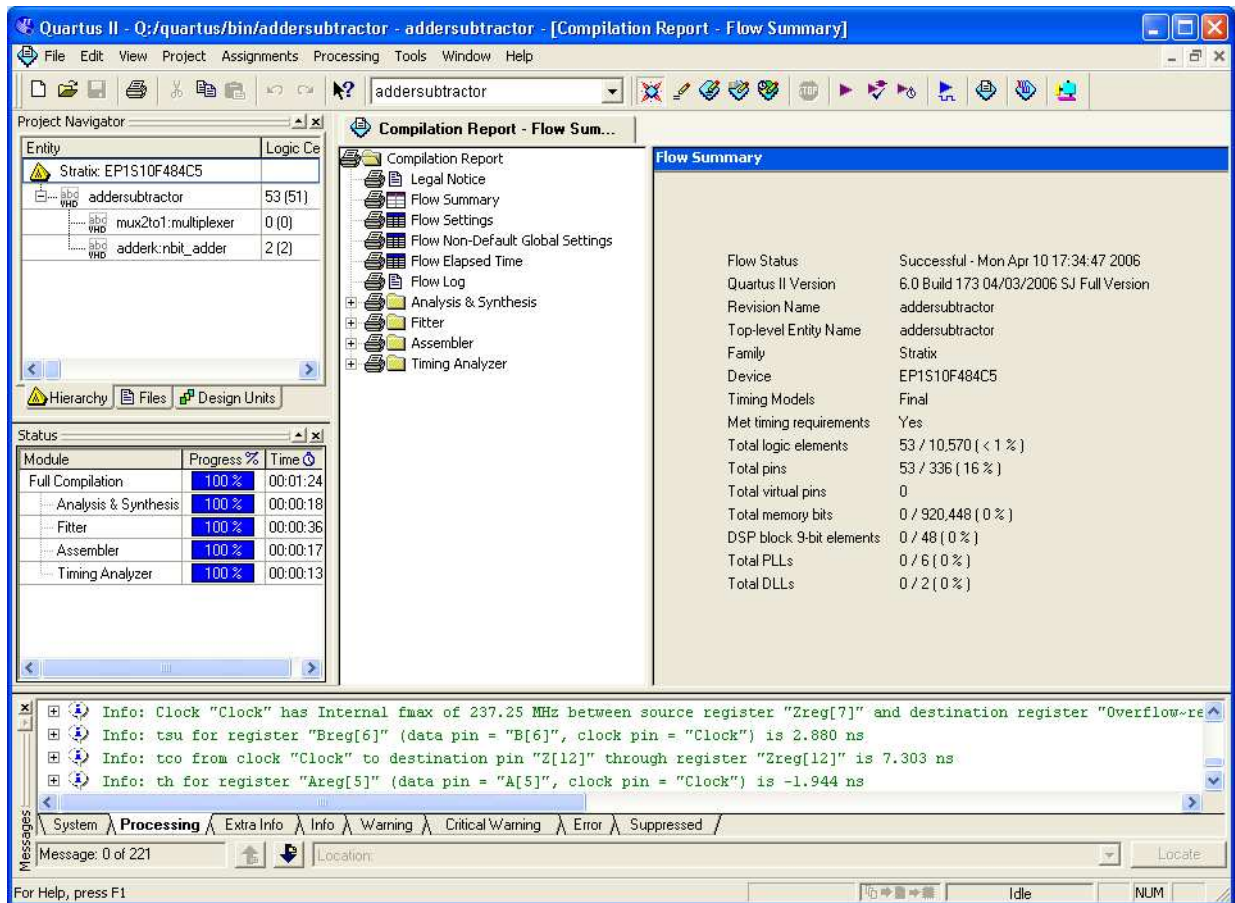

Figure 18: Display after a successful compilation.
1. Run the Compiler by selecting **Processing > Start Compilation**, or by using the toolbar icon . As the compilation moves through various stages, its progress is reported in the window on the left side. Successful (or unsuccessful) compilation is indicated in a pop-up box. Acknowledge it by clicking **OK**, which leads to the Quartus II display in Figure 18, in which we have expanded the Entity hierarchy in the top left corner to show all modules in the *addersubtractor* design. In the message window, at the bottom of Figure 18, various messages are displayed. In case of errors, there will be appropriate messages given.